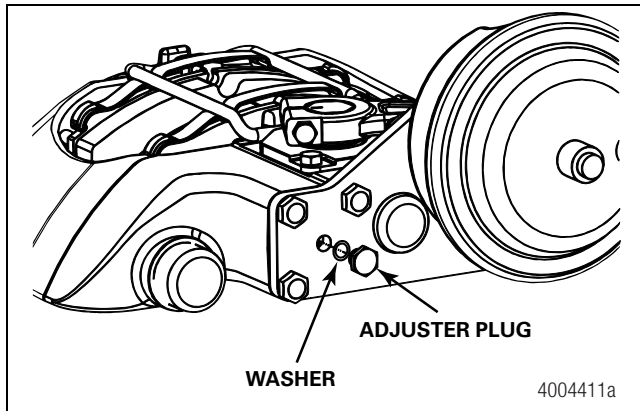

Figure 2
1. Remove the adjuster plug and washer. Figure 2.
2. Install the adjuster plug and washer. Tighten to 8-12 lb-ft (11-17 N•m). Figure 2. ⚠